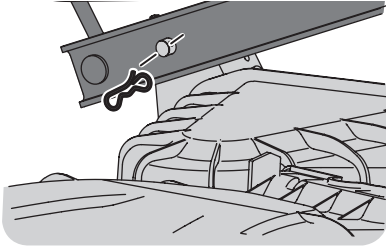

Figure 42
- Looking at the deck from the left side of the tractor, locate the bow-tie pin on the rear left side of the deck. See Figure 42.
- Remove the pin and slide the deck pin out of the deck lift arm. See Figure 42.